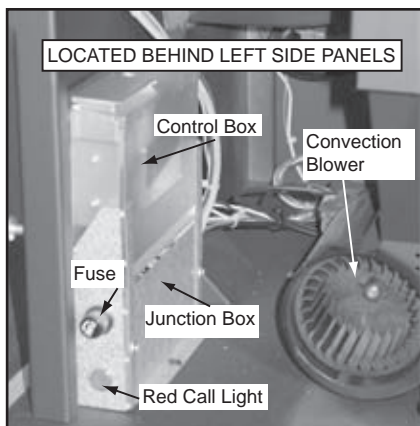

Figure 10.1
4. Look through the hole in the left lower side panel and you will see the red call light on the control box will be on. **Figure 10.1.** This indicates the thermostat is calling for heat. On the CAB50 the light can be viewed from behind through the hole near the bottom left side of the rear panel.
3. Occasionally the appliance may run out of fuel and shut itself down. When this happens, the red call light will be on. **See Figure 10.1, page 10.**